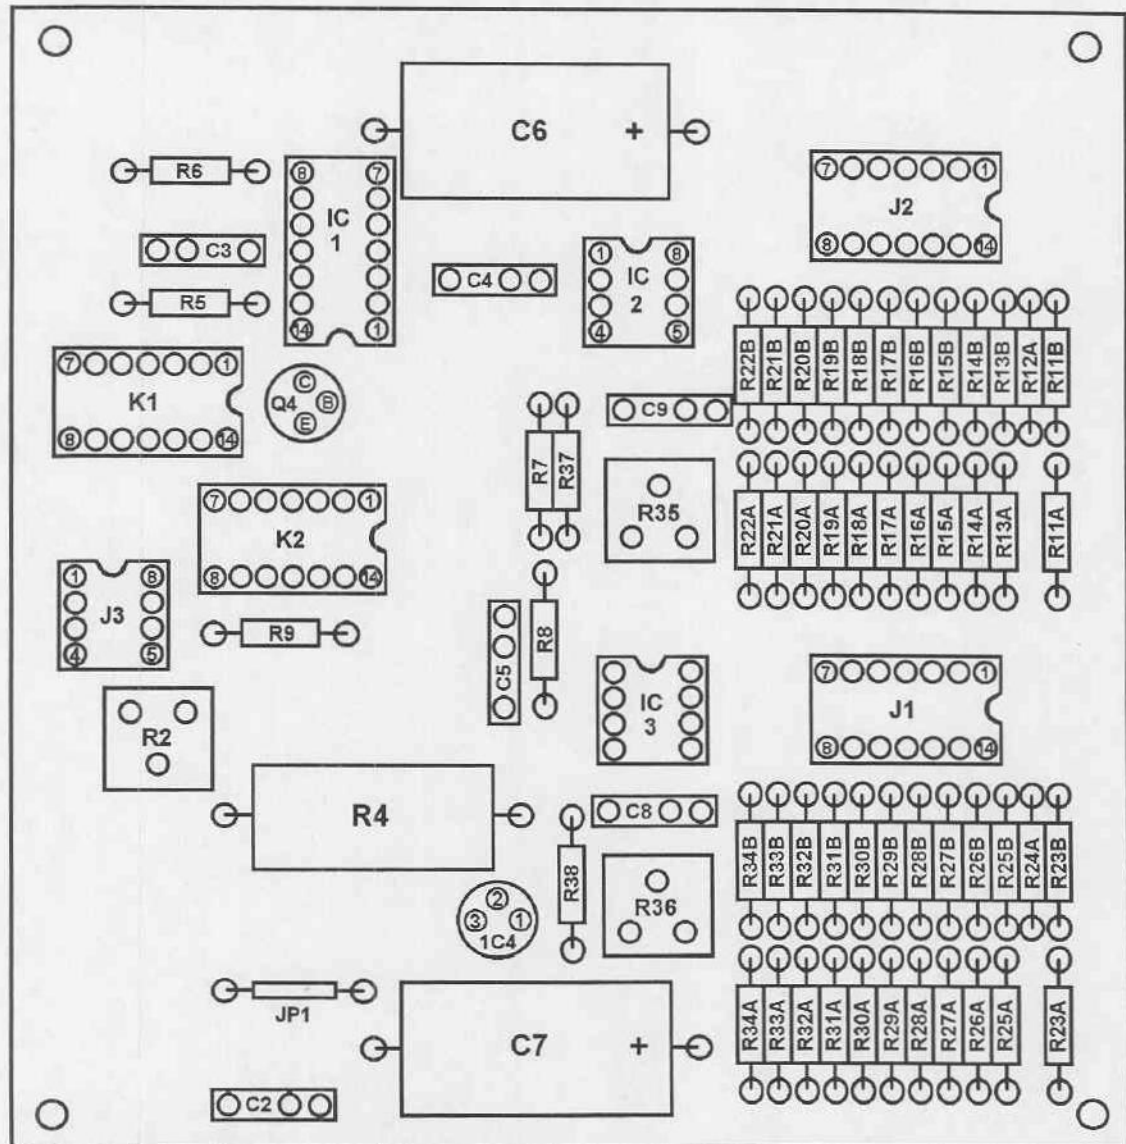

Figure 3-1. Control circuit PCB layout.
a. The control circuit PCB is provided in figure 3-1 to assist you in locating components and in understanding the operation of the control circuit.